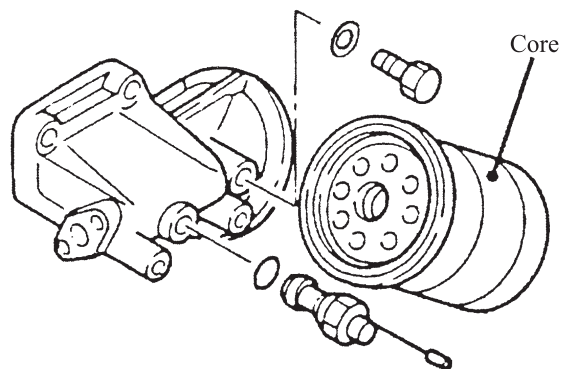

Fig.1-7
1.3.3 For the machine oil filter, See Fig.1-7.